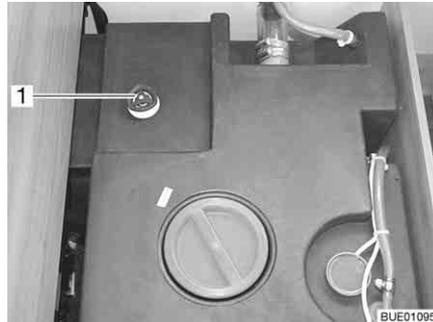

Fig. 150 Water tank with handle
- Turn the handle (Fig. 150,1) on the water tank in a clockwise direction as far as it will go.
- Turn the handle (Fig. 150,1) on the water tank in an anticlockwise direction as far as it will go. Excess water will drain away leaving 50 litres in the tank.